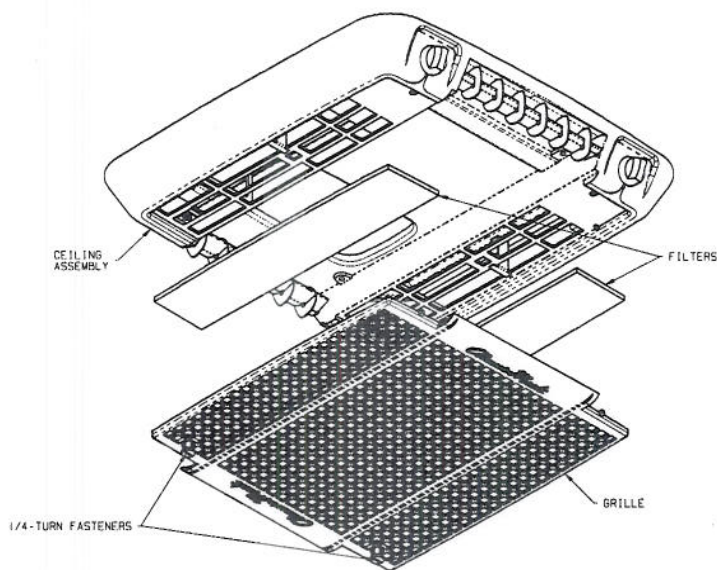

FIGURE 2
1. Disengage the two 1/4 -turn fasteners that secure the ceiling assembly grille to the ceiling assembly (See Figure 2).
3. Take filters out and either clean or exchange with other filters (See Figure 2).